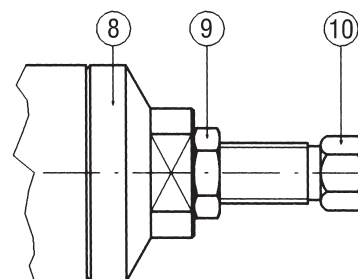

Fig. 15 - 30./... adjustment screw.
- 4) By means of the pressure gauge 5, check that the pressure does not exceed the maximum value permitted by the setting spring fitted in the pilot. If necessary suspend the operation by closing V1 and completely reduce the load of the spring by turning screw 10 anticlockwise (fig. 15). Reopen valve V1 slowly.
- 7) Adjust the setting by alternately adjusting the AR73 valve and the 30./... pilot so that the value of the set pressure is obtained with the minimum opening possible of the AR73 valve; then block the screw 10 of the pilot with the provided nut 9 (fig. 15).
- 8) Adjust the setting by alternately adjusting the AR73 valve and the 30./... pilot so that the value of the set pressure is obtained with the minimum opening possible of the AR73 valve; then block the screw 10 of the pilot with the provided nut 9 (fig. 15)
- 1) Completely increase the setting of the pilot 3 by turning ring 10 clockwise (fig. 15).
- 16) Adjust the setting by alternately adjusting the AR73 valve and the 30./... pilot so that the value of the set pressure is obtained with the minimum opening possible of the AR73 valve; then block the screw 10 of the pilot with the provided nut 9 (fig. 15).